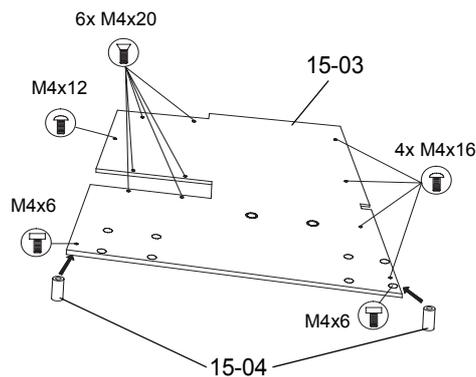

Figure 4-4 Module worktable
- 6 Insert the fixing screws and the two distance washers (15-04) according to Figure 4-4. Tighten the fixing screws.